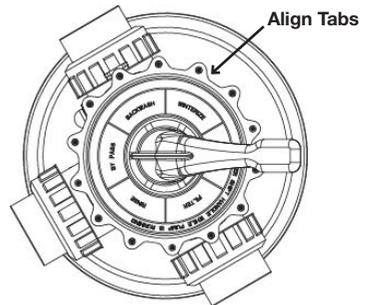

Figure 2
4. Align cover pin (see Figure 2) and install new cover and plug. Press down on cover to allow bolts to engage nuts; tighten each bolt securely.
7. Align the tab on the cover assembly with the pin on the valve body (See Figure 2) and insert the cover assembly into the body, fastening it with the bolts and nuts removed in Step 2. Tighten all bolts securely.